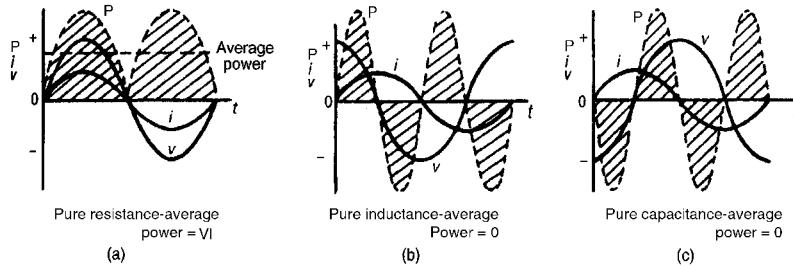

Figure 15.22
In Figures 15.22(a)–(c), the value of power at any instant is given by the product of the voltage and current at that instant, i.e. the instantaneous power, $p = vi$, as shown by the broken lines.
(V and I being rms values) See Fig. 15.22(a)
- (b) For a purely inductive a.c. circuit, the average power is zero. See Fig. 15.22(b)
- (c) For a purely capacitive a.c. circuit, the average power is zero. See Fig. 15.22(c)